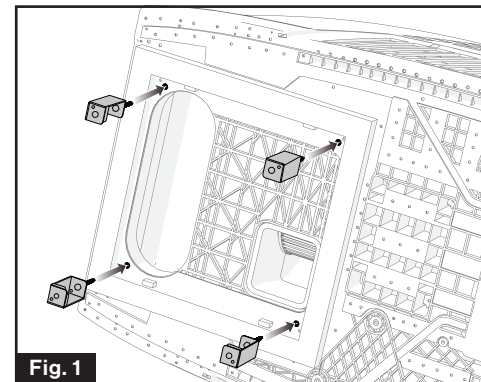

Fig. 1
- Install the four conversion brackets onto the bottom of the rooftop unit as shown in Fig. 1 and fix with 4 short bolts provided.